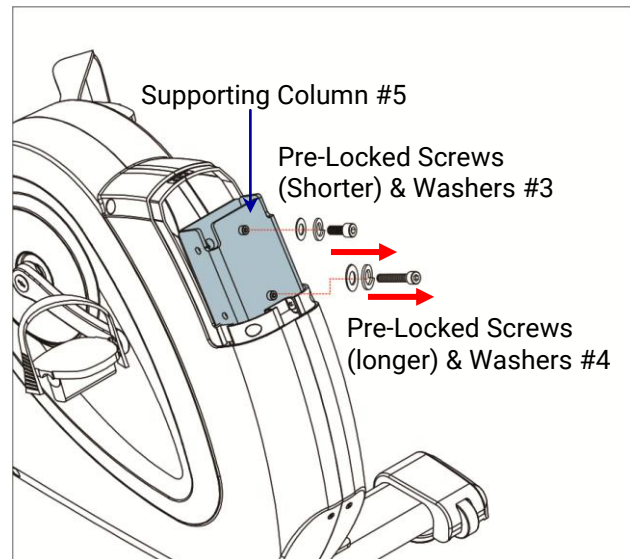

Fig 2.5-4B
2) Unscrew the (2) **Pre-Locked Screws #3 & #4** on **Supporting Column #5** with the provided 6mm Allen wrench. (Fig 2.5-4B)